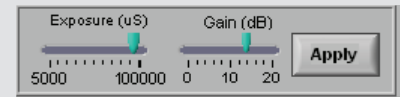

Figure 7.5 Camera Acquisition Controls
1. Place the mouse over the arrow on the *Exposure* ( $\mu$ S) scale and drag to the desired position (15,000 - 20,000  $\mu$ s works in most cases) (Figure 7.5).
1. Click the arrow on the *Gain* (dB) scale and drag to the desired position (8-10 dB works in most cases) (Figure 7.5).